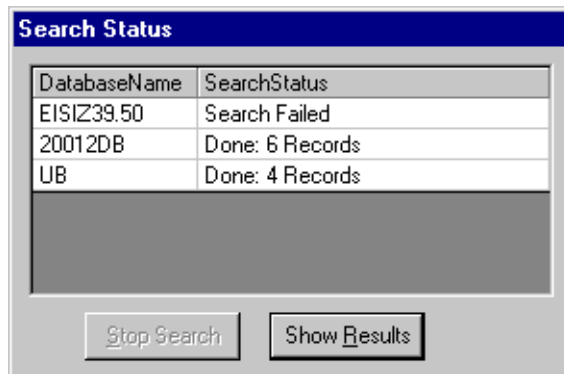

Figure 2-63. Search Status dialog box
- If you are performing a simultaneous search, the **Search Status** dialog box opens (see Figure 2-63), listing each database name and the status of each search. The **Stop Search** button displays if your search returned over 100 hits. It allows you to interrupt the search if the status is **Searching** or **Receiving**.